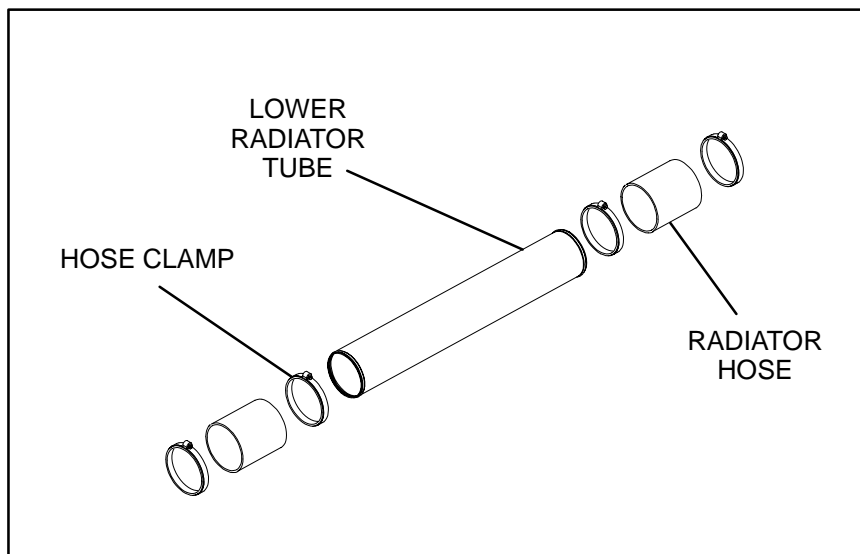

FIGURE 9-6. RADIATOR LOWER TUBE
8. Slide a radiator hose all the way on one end of the lower radiator tube and slide another radiator hose half way on the other end (Figure 9-6). Slip the clamps over ends of the pipe and on the mating pipes on the engine and the radiator. Use a lubricant such as WD40 on the end of the tube.